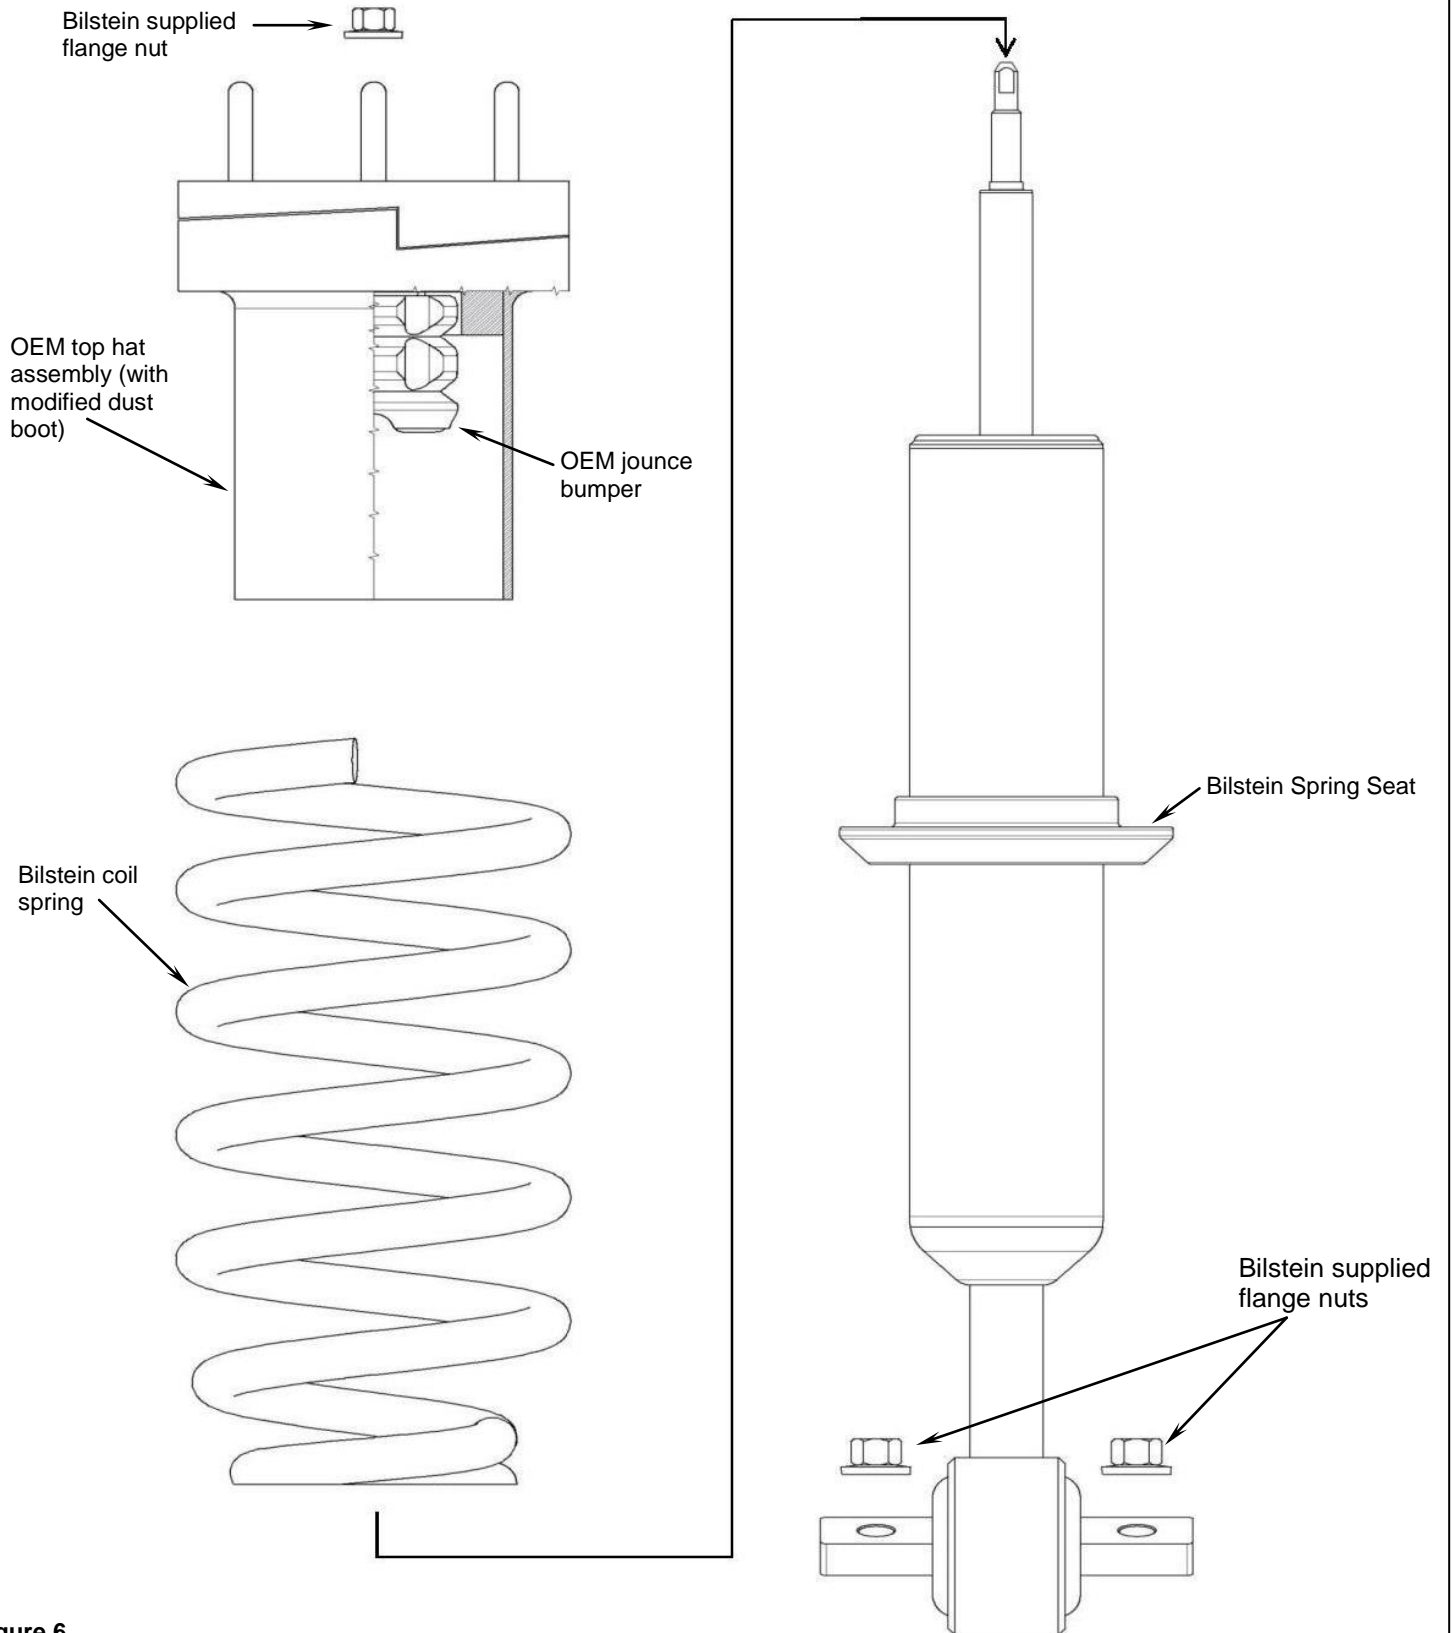

Figure 6
- G. Using an appropriate spring compressor, compress the Bilstein coil spring and assemble it with the new Bilstein shock. Ensure that the Bilstein coil spring is installed in the direction shown only. Refer to Figure 6.
- H. Install the OEM top hat assembly (which includes the modified OEM dust boot, OEM top mount plate, and OEM jounce bumper) over the threaded stem on the new Bilstein shock and on top of the spring. Refer to Figure 6.
- K. Install the provided new Bilstein flange nut onto the piston rod tenon and tighten to 25 Nm (19 lb/ft). Refer to Figure 6 (shown above the top hat assembly).